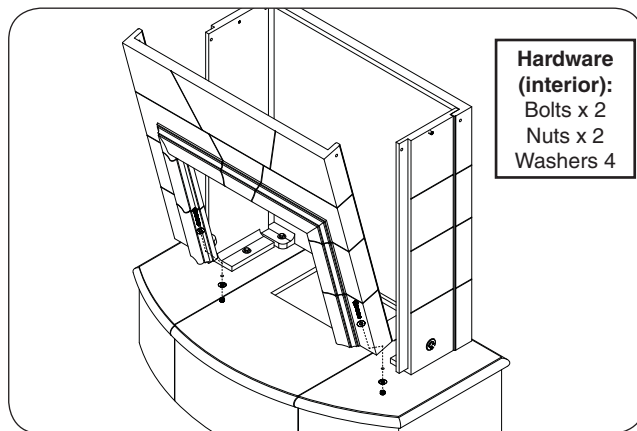

Fig. 17-3 Assemble body - front wall to hearth
3. Place the body front wall piece on top of the hearth. Carefully align the pilot holes to the hearth, insert the hardware (interior hardware kit), and only hand tighten at this stage. See Fig. 17-3.